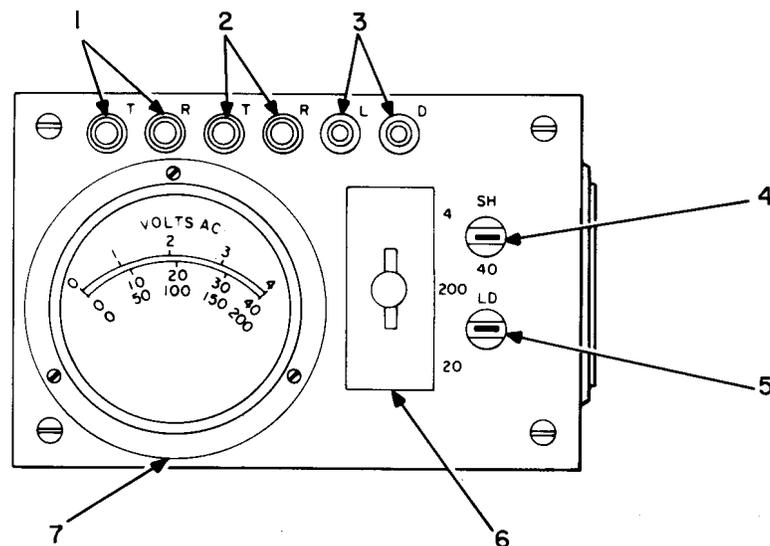

Fig. 4-5—2AH Test Set
#### **2AH Signaling Test Set (Fig. 4-5 and 4-6)**
**4.36** Due to the simplicity of the 2AH, no detailed procedure for operation is given here. However, Fig. 4-5 and 4-6 show control functions and typical test arrangements, respectively. (For more detailed information, see Section 100-265-101.)
- 1 — T and R jacks are 2 conductor type used for connection to Tip and Ring of circuit (see Fig. 4-5).
- 2 — T and R jacks are 2 conductor types used for connection to Tip and Ring of circuit (see Fig. 4-5).
- 3 — L and D jacks are 2-conductor types use for connection to Line and Drop Facilities (see Fig. 4-5).